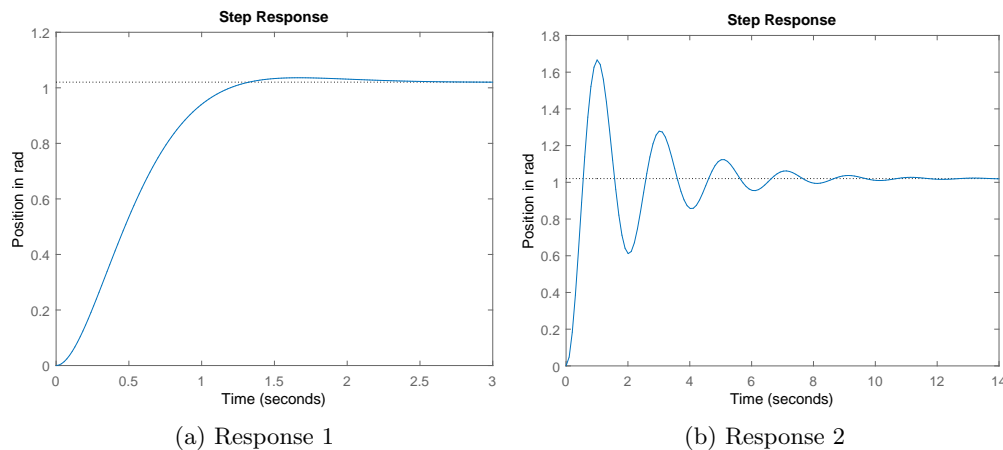

Figure 4: Pendulum response with different system parameters
(B) The transfer function model of the pendulum is given by equation 1. Figure 4 shows 2 different step responses, made with the same model structure, but with one parameter changed.